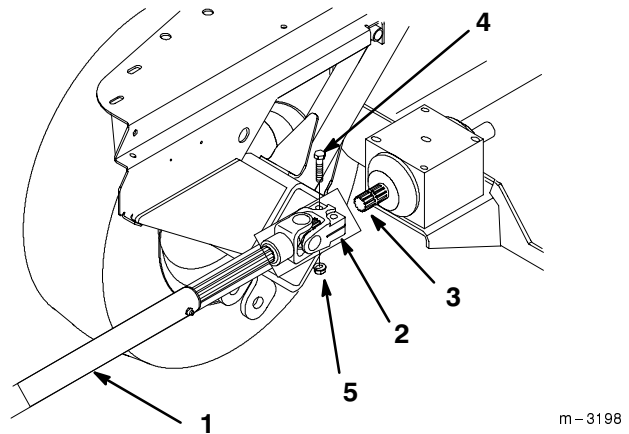

Figure 30
1. Install (2) 3/8"-16 x 1-5/8" (41.5 mm) bolts and 3/8"-16 locknuts from universal joint and slide the driveshaft off gearbox shaft (Fig. 30).